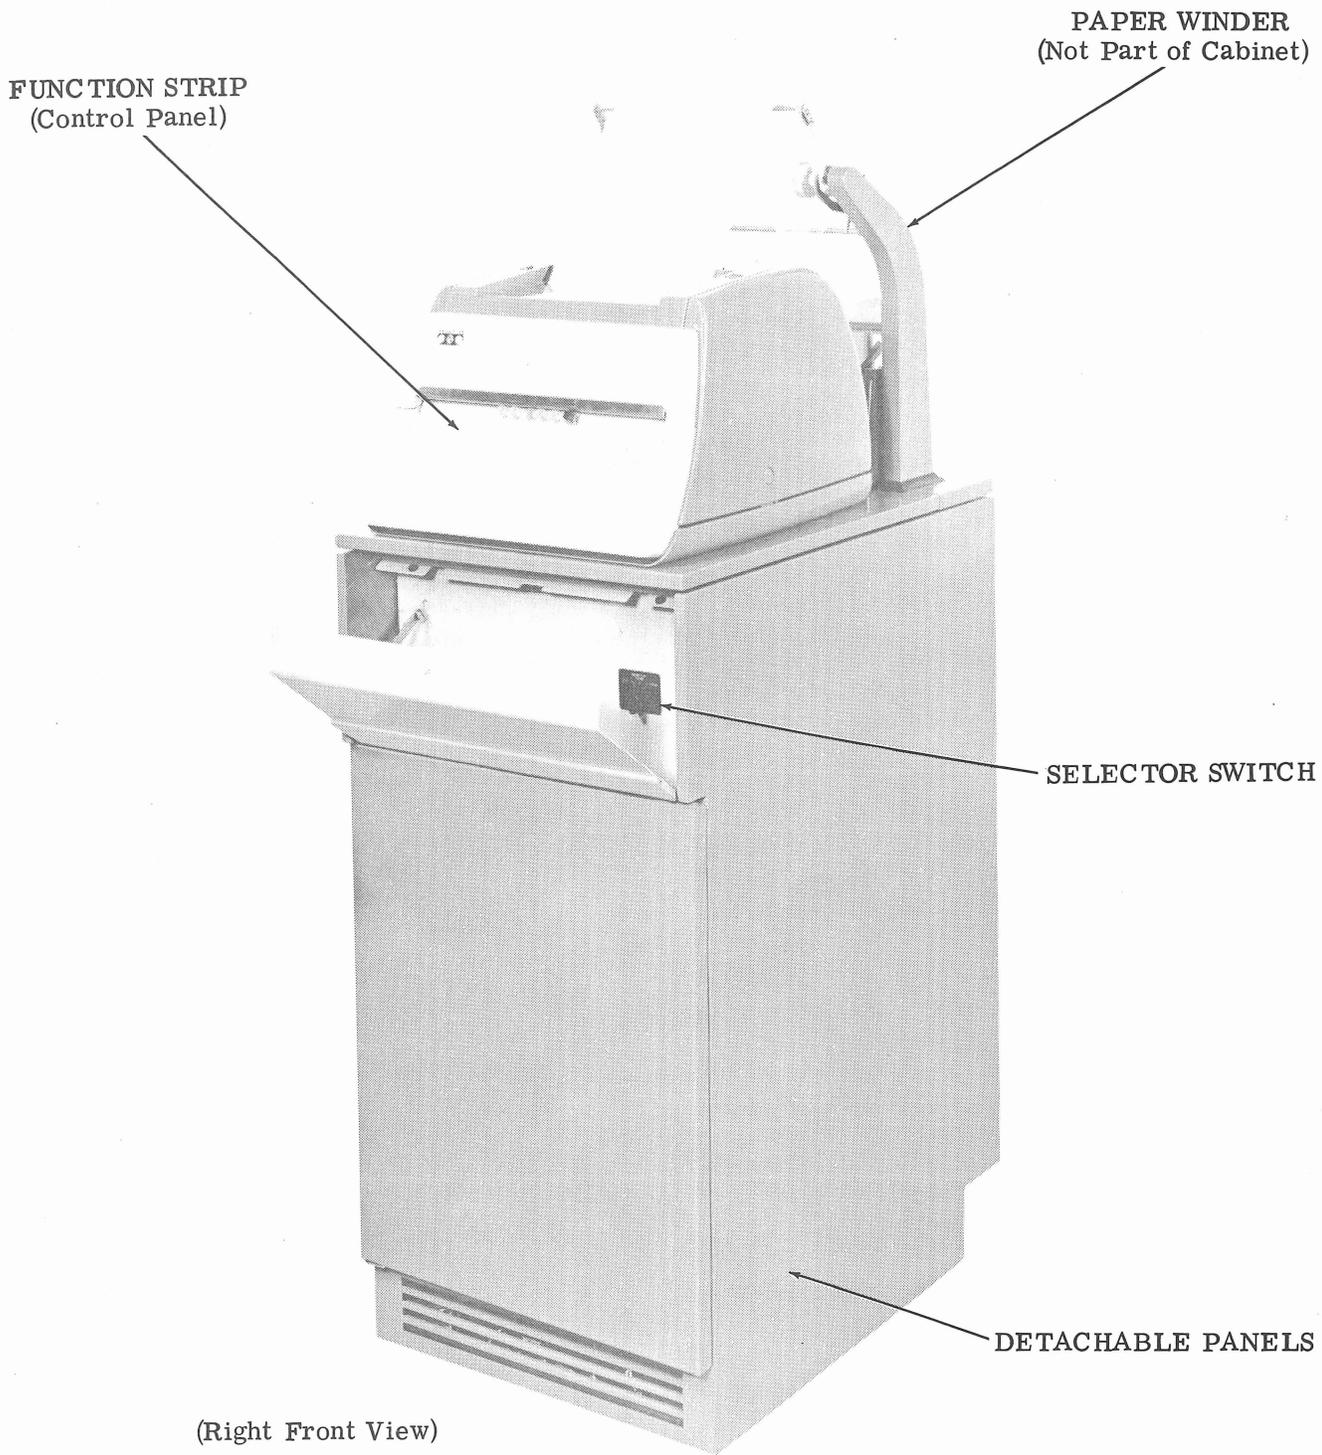
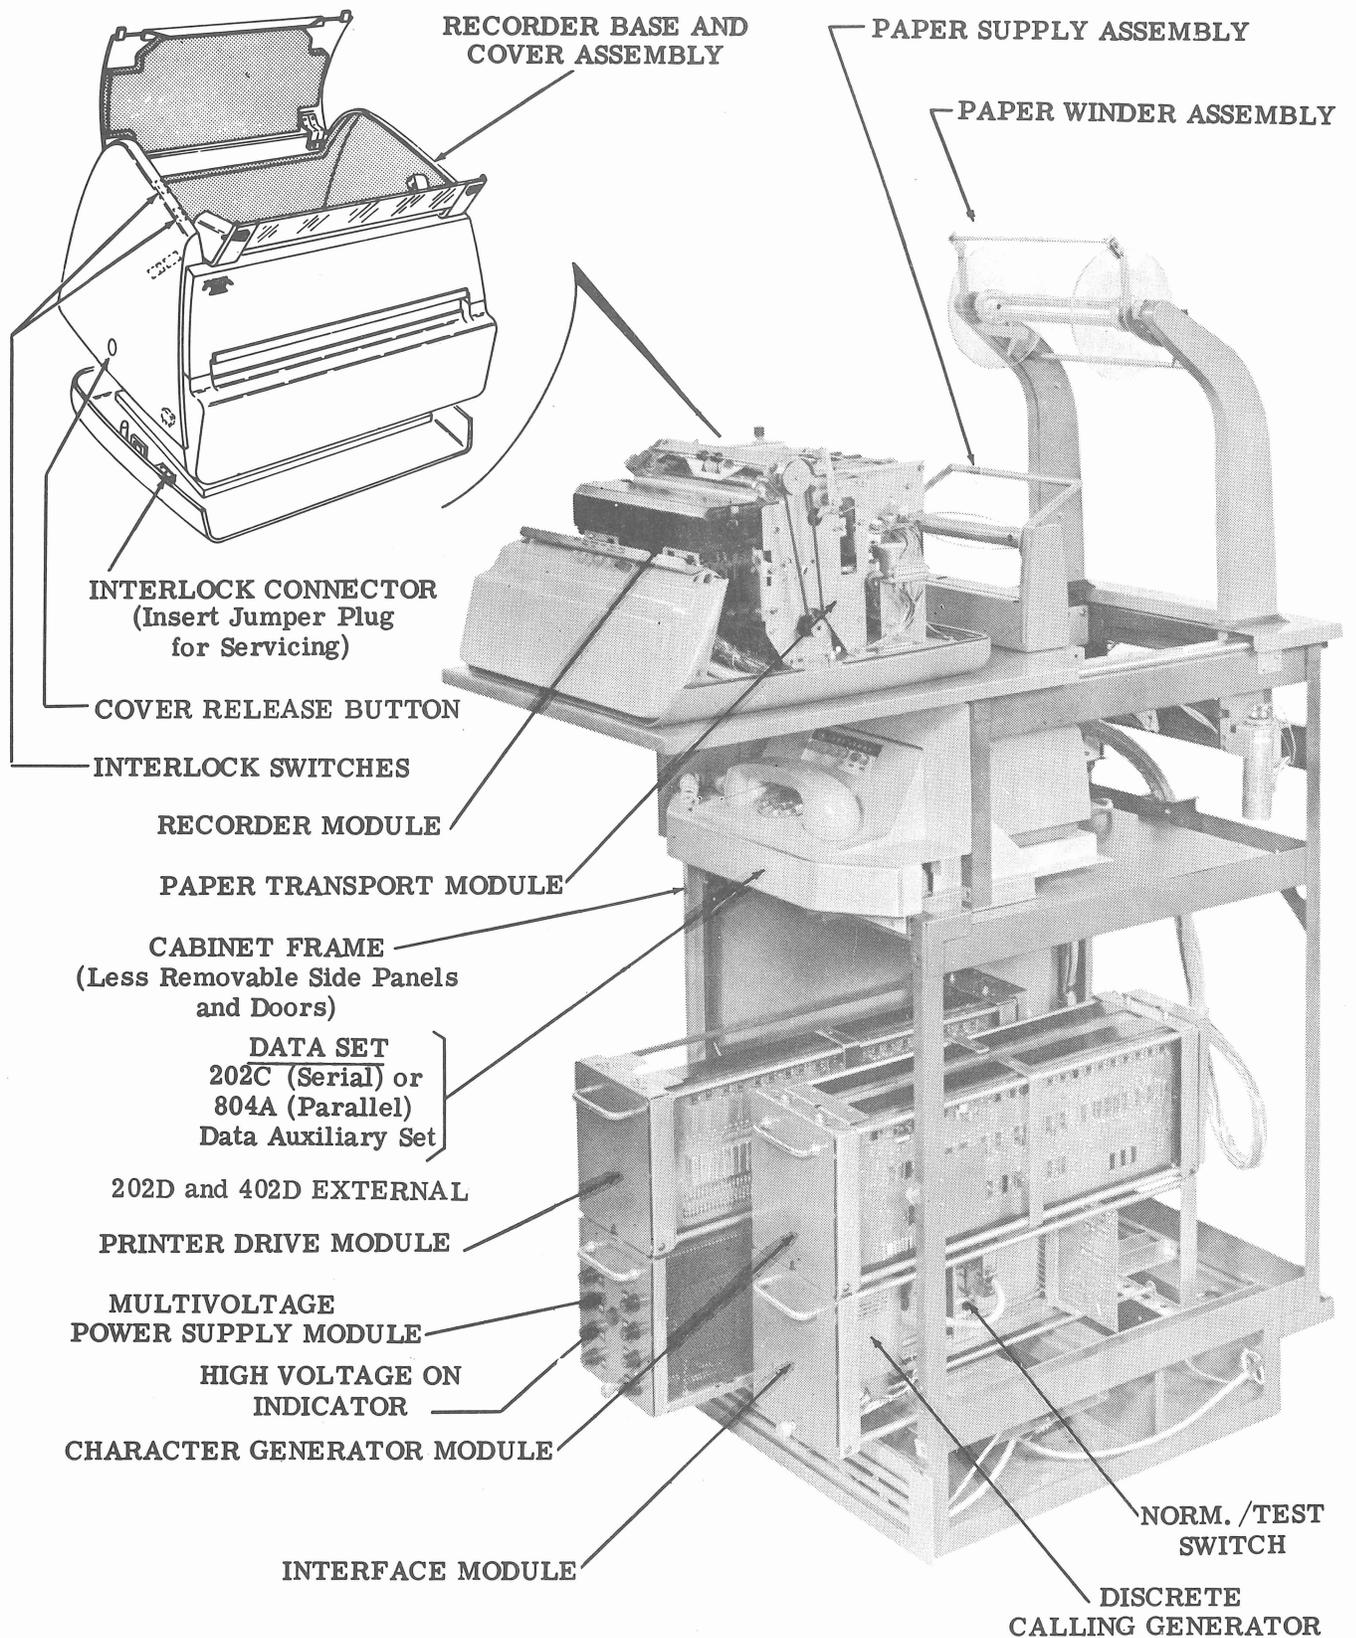

Figure 1 - "DATASPEED" Printer With
Figure 2 - Basic Recorder With Modular Assemblies
1.03 The receive-only printer (Figures 1 and 5) is intended for “DATASPEED” service with serial operation (Type 2 “DATASPEED” equipment), or parallel operation (Type 5 “DATASPEED” equipment). The initial offering (Figure 2) is used with a 202C data set (serial) or 804A (parallel) data auxiliary set and a 402D data set to provide a receive-only “DATASPEED” printer station. Should the 402D data set be used, it will be necessary to locate it outside the cabinet. The eight station arrangements for “DATASPEED” service (four each for Type 2 and Type 5) are shown in Figure 5. Certain facilities such as discrete calling, which provides unattended service, and the paper winder may be added.
1.05 The basic character forming mechanism consists of a page recorder mechanism (ink tank, nozzles, and deflecting elements) and the paper transport mechanism (high speed, paper stepping mechanism for line feeding) which are located about four feet above the floor and enclosed by a protective cover (Figure 2). These mechanisms are fully dependent upon the associated modules and assemblies contained in the floor-type cabinet that supports the basic equipment. Two cabinet styles provide facilities for the “DATASPEED” or the data set input signal source.
2.02 The cover and base assembly is a two piece metal envelope that tightly encloses the electrostatic ink dispensing mechanism. Note the location of the interlock sensitive switches and the jumper plug arranged to override the safety feature for service only (Figure 2). The major control and operating pushbutton switches are the nonlatching, nonexclusing type and are located on the base assembly. The copyright assembly is located at the rear of the control buttons.